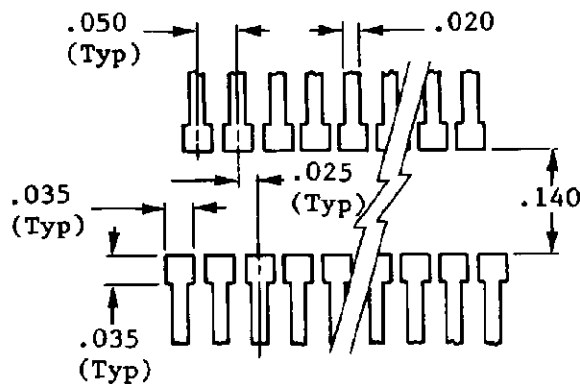

Fig. 2 PC Board Layout
The following statements and the layout recommendations shown in Figure 2, apply to printed circuit board connectors.
3. If a solder mask is used, there must be clearance around the pads as defined in Figure 2.